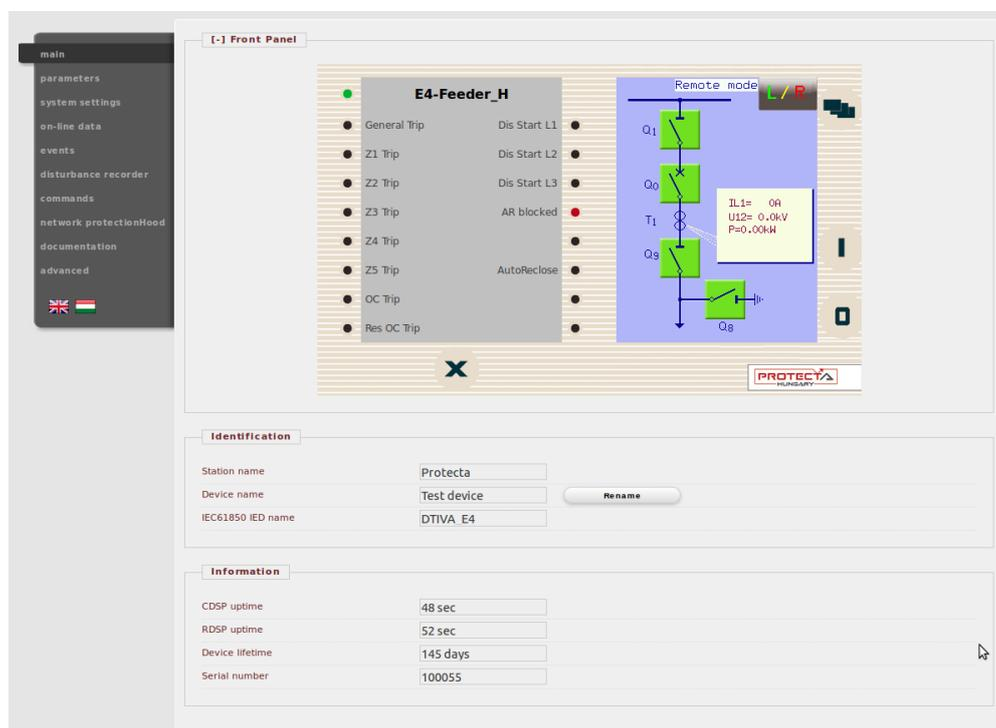

Fig. 1. Main menu
The currently selected menu item is highlighted in black (Fig.1). In some configurations, the currently displayed language can be changed. To do this, simply click one of the other available languages represented by the flags and the page will be refreshed in the desired language. Changing the display language affects only the local browser of the user. Other browsers and the language of the touch screen will not be modified. In case the content area is too long, the user can scroll down and the menu bar will follow the user.
The front panel of the device can be controlled from here (Fig 1). The image in the center of the screen behaves the same way as the touch screen and the LEDs, except the on (1) and the off (0) buttons. These two buttons are insensitive for security reasons. The X button on the bottom of the front panel picture initiates a LED reset. Text appearing by a LED is coming from the configuration and may be different than the label inserted.